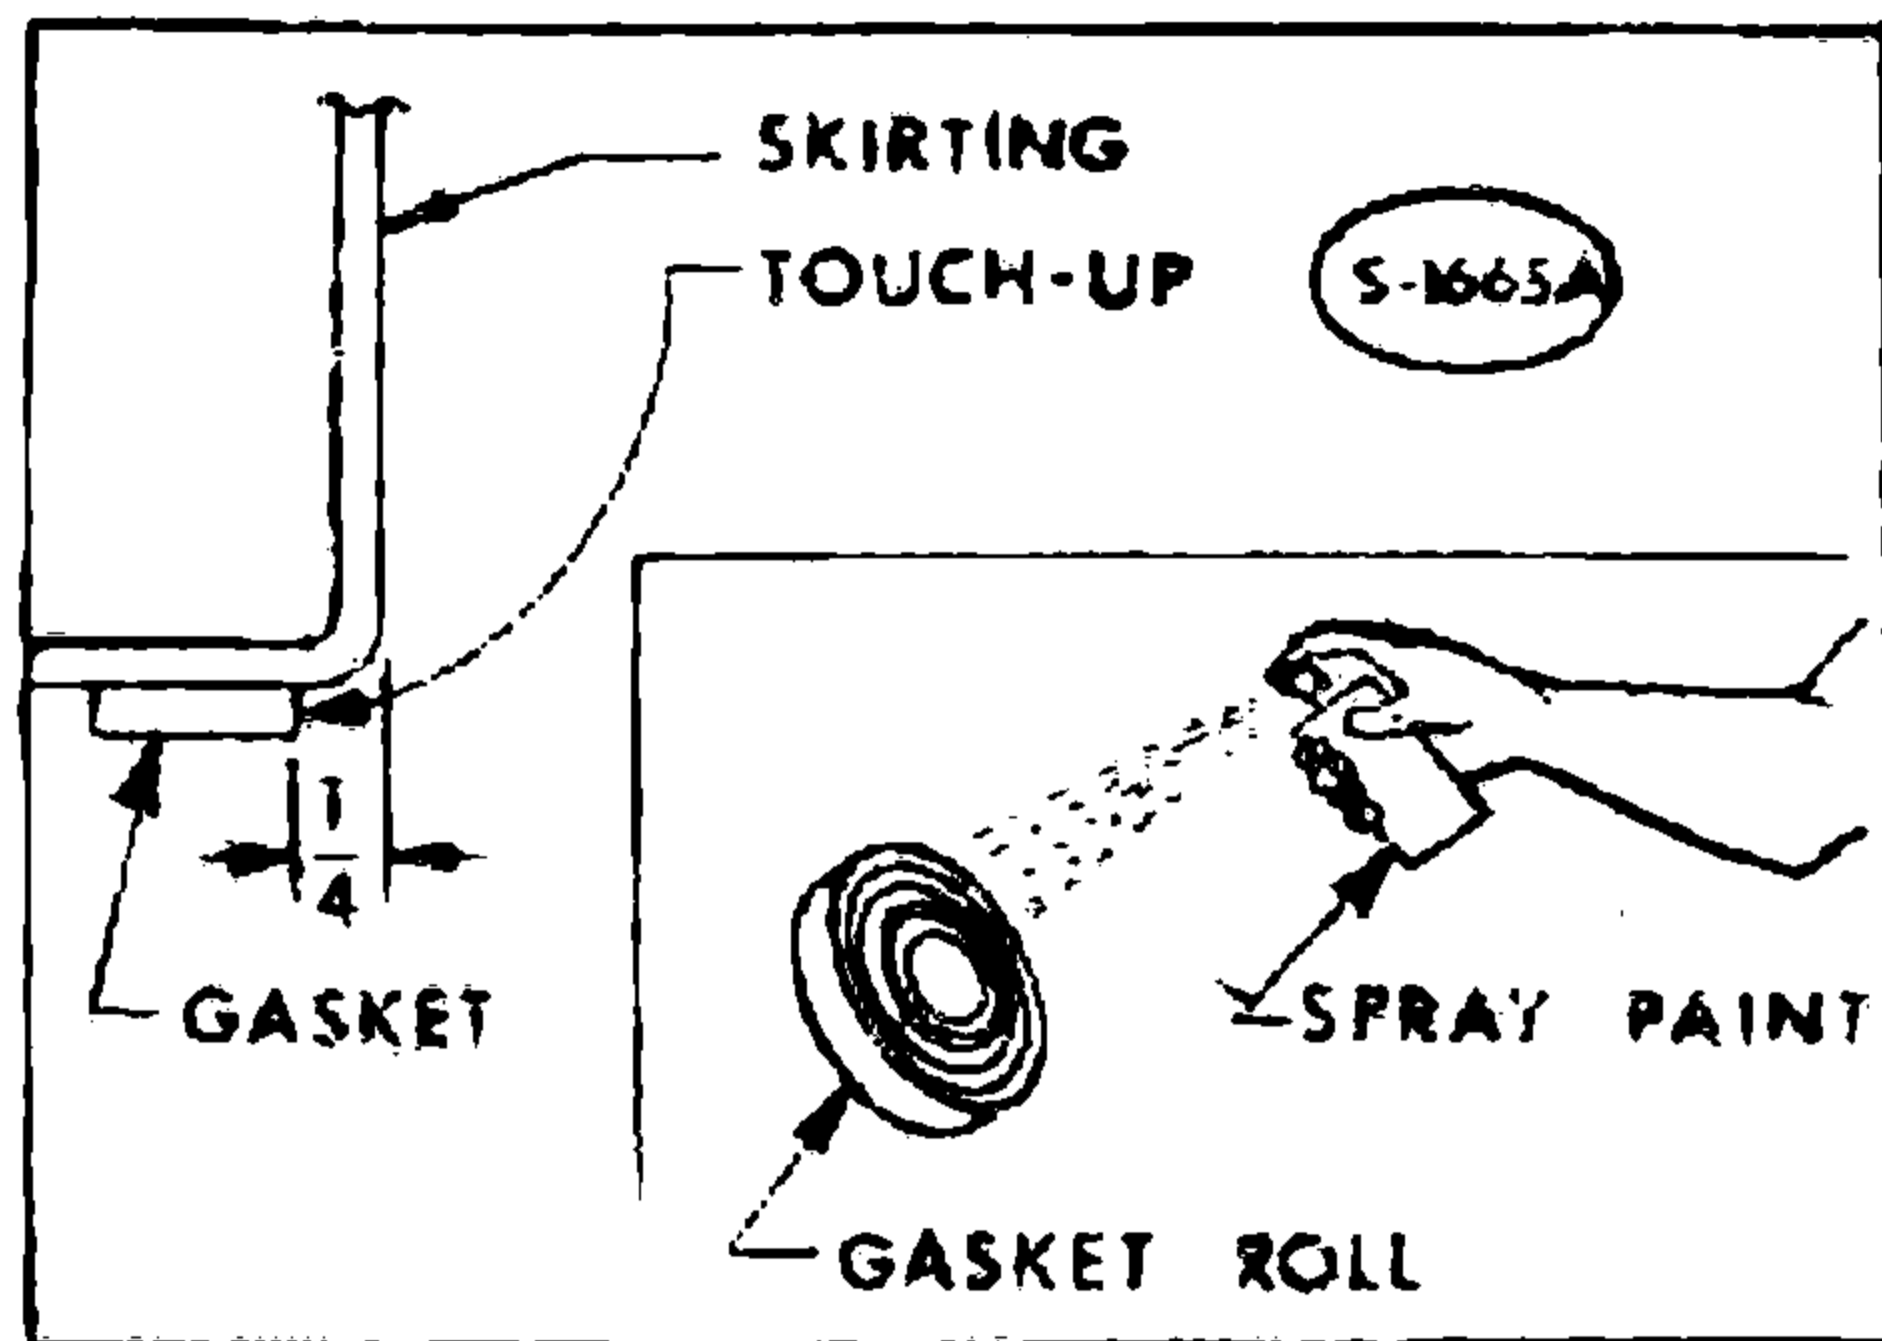

FIG. 8 — INSTALLING GASKET ON SKIRTING
4. It is essential that the skirting be sealed to the stove and to the fireplace. Before mounting the skirting, cut to length the $\frac{1}{2}$ x 1" gasket, remove the backing, and stick under skirting flange. The gasket should be recessed under the flange approximately $\frac{1}{4}$ ". (See Figure 8)